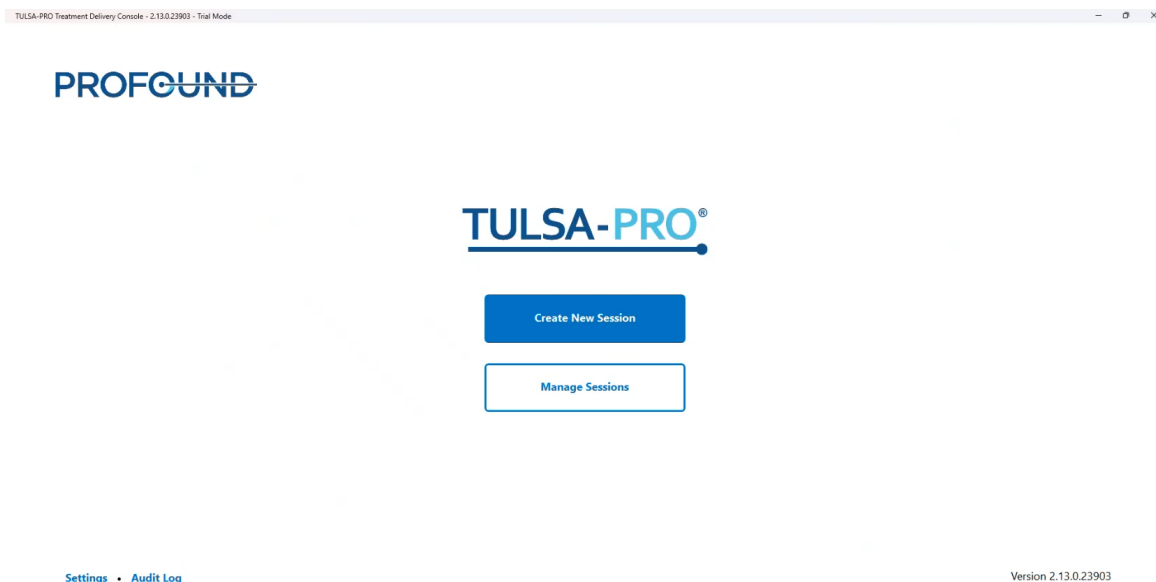

Figure 6: TULSA-PRO Start Screen
2. After synchronizing the system clocks, the **Start Screen** will appear (*Figure 6*). Click **Create New Session**.